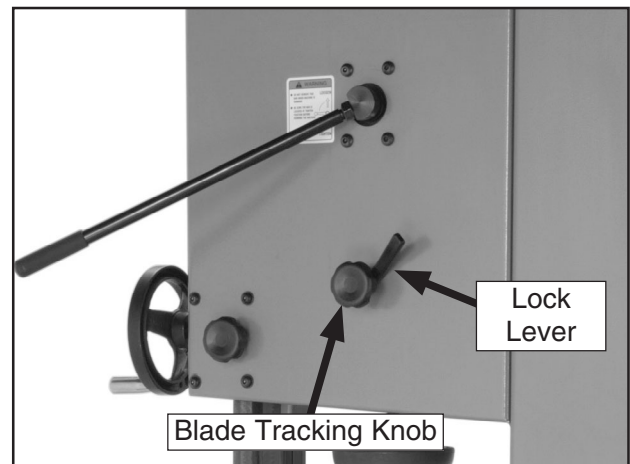

Figure 20. Blade tracking controls.
6. Loosen the lock lever (**Figure 20**) so that the blade tracking knob can rotate.